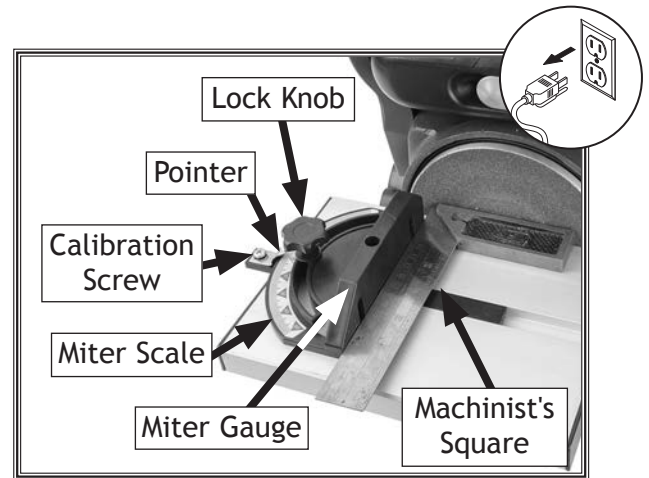

Figure 29. Miter gauge components.
3. Loosen miter gauge lock knob. Place a machinist's square with one edge against miter gauge and other edge against sanding disc, as shown in **Figure 29**.
5. Pointer shown in **Figure 29** should point to "0" on the miter scale.
6. Loosen calibration screw shown in **Figure 29**, set pointer to "0" on miter scale, making sure fence remains flush with machinist's square, and re-tighten screw.